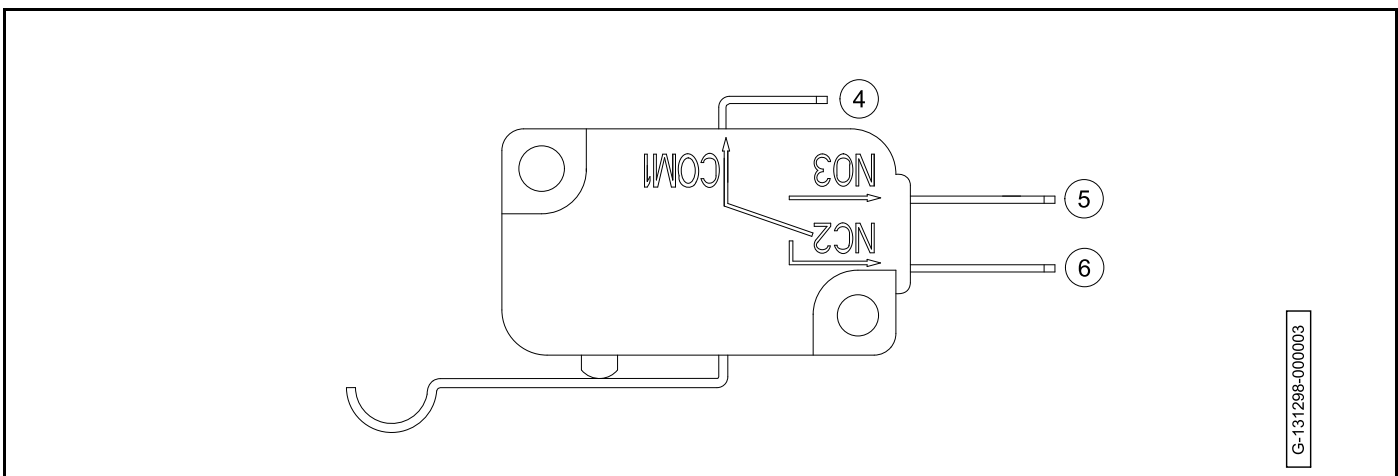

Figure 19-28 Neutral Lockout Limit Switch Terminals
2. Install the washers (2) and nuts (3). Tighten the nuts to 4 in·lb (0.45 N·m).
5. Connect the black/yellow wire to the COM1 terminal (4) (Figure 19-28, Page 19-26).